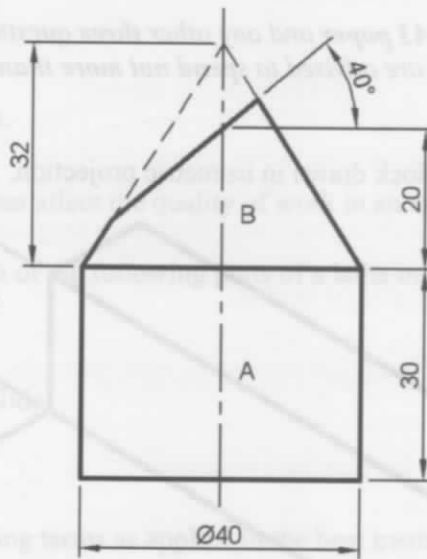

Figure 2
12. **Figure 2** shows an oil can which consists of a cylindrical body A and a truncated conical top B. Draw the surface development of part B when opened on the shorter side. (15 marks)